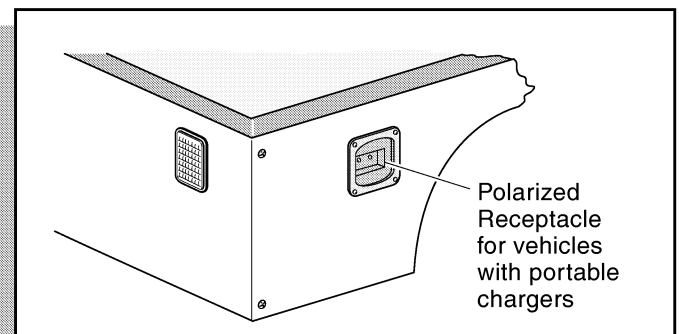

Fig. 10 Polarized Receptacle
The charging (DC) cord is equipped with a polarized connector which fits into a matching receptacle on the vehicle (Ref Fig. 10 on page J-7).